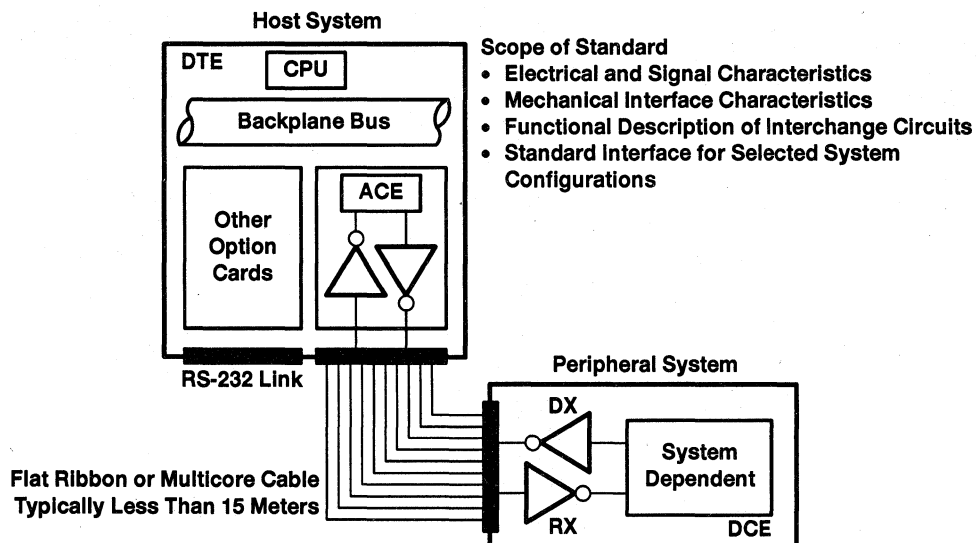

Figure 2-1. EIA/TIA-232-E Industry Standard for Data Transmission
The EIA introduced the RS-232 standard in 1962 in an attempt to standardize the interface between (DTE) and Data Communication Equipment (DCE). The DTE comprises the data source, data sink, or both. The DCE provides the functions to establish, maintain and terminate a connection, and to code/decode the signals between the DTE and the data channel. Although emphasis was then placed on interfacing between a modem unit and data terminal equipment, other applications were quick to adopt the RS-232 standard. The growing use of the personal computer (PC) quickly ensured that RS-232 became the industry standard for all low-cost serial interfaces between the DTE and peripheral. The mouse, plotter, printer, scanner, digitizer, and tracker-ball, in addition to the external modems and test equipment, are all examples of peripherals that connect to an RS-232 port (see Figure 2-1). Using a common standard allows widespread compatibility plus a reliable method for interconnecting a PC to peripheral functions.